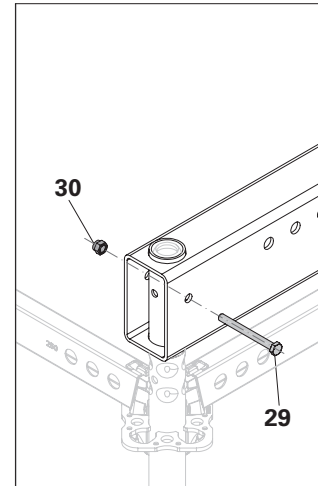

Fig. A8.01b
2. Fit the bolt (29) and nut (30) onto the ledger and leg – per ledger – 2x. (Fig. A8.01b)